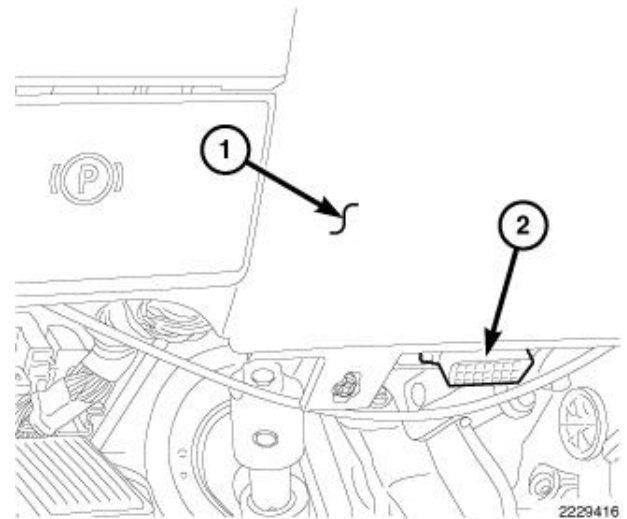

Figure 17 – DLC
25. Be certain that the diagnostic scan tool contains the latest version of the proper diagnostic software. Connect the scan tool to the 16-way Data Link Connector (DLC) (2). The DLC is located on the driver side lower edge of the instrument panel, near the steering column opening cover (1) and outboard of the steering column (Figure 17).